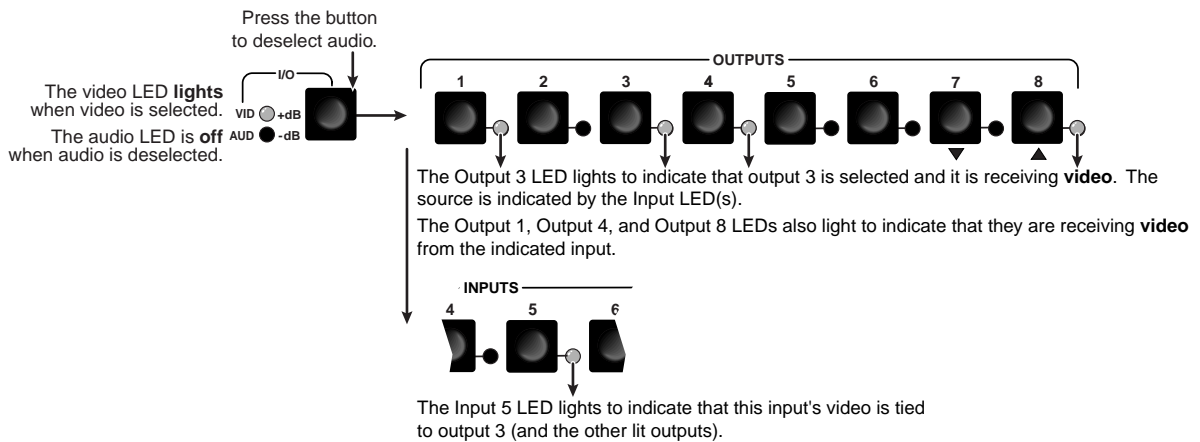

Figure 3-25 — Deselect audio to view video ties only
3. Press and release the I/O button (figure 3-25).